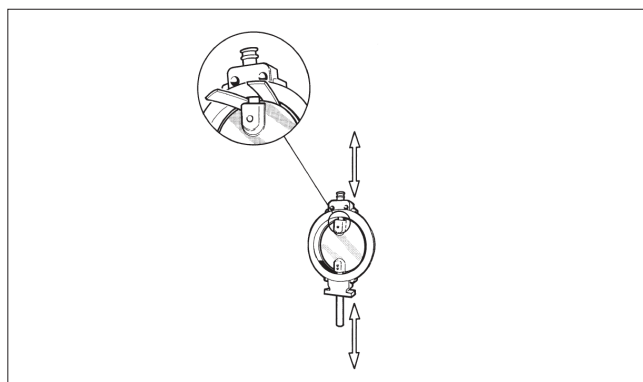

Fig. 16 Protecting the disc during disassembly and assembly
- Drill the holes carefully to the center of the pins (18). Choose a drill 0.2-0.5 mm smaller than the diameter of the pin.
- Dismantle the gland packing including anti-extrusion ring (23) according to Section 5.3.
- Detach the screws (44) and the blind flange (8) and remove the gasket (31).
- Place rubber strips or other protection between the disc edge and the body and remove the shafts (see fig 16).
- Mount the bearings (11, 12) into the body (1) from flow port side.
- Place the disc horizontally on a surface so that the flat side of the disc lays against the surface. Lift the body around the disc so that the shaft bores are aligned with the bores in the disc. Protect the disc (see Fig. 16).